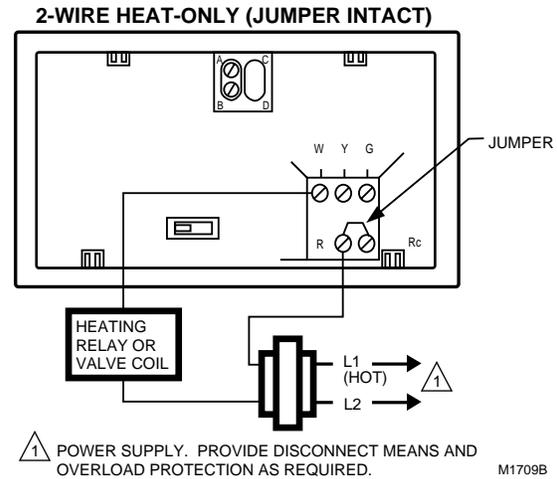

Fig. 5. 2-wire heat-only application (jumper intact).
All wiring must comply with local electrical codes and ordinances. Refer to Fig. 5 through 8 for typical hookups. A letter code is located near each terminal for identification.
- 5 Run the required number of wires to the thermostat location. Refer to Fig. 5 through 8 for typical wiring diagrams.